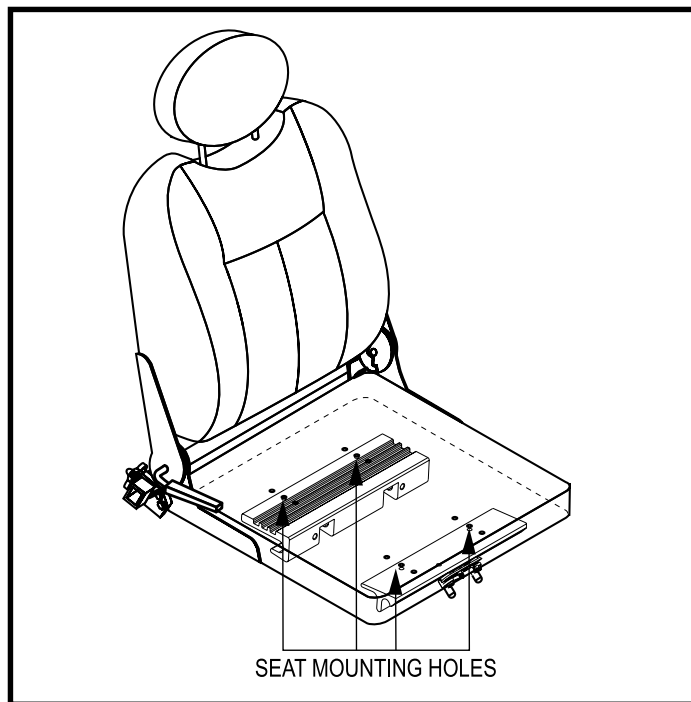

Figure 16. Seat Position Adjustment
6. Reposition the extrusions on a different set of mounting holes. You must move both extrusions the same number of holes either forward or backwards. See figure 16.